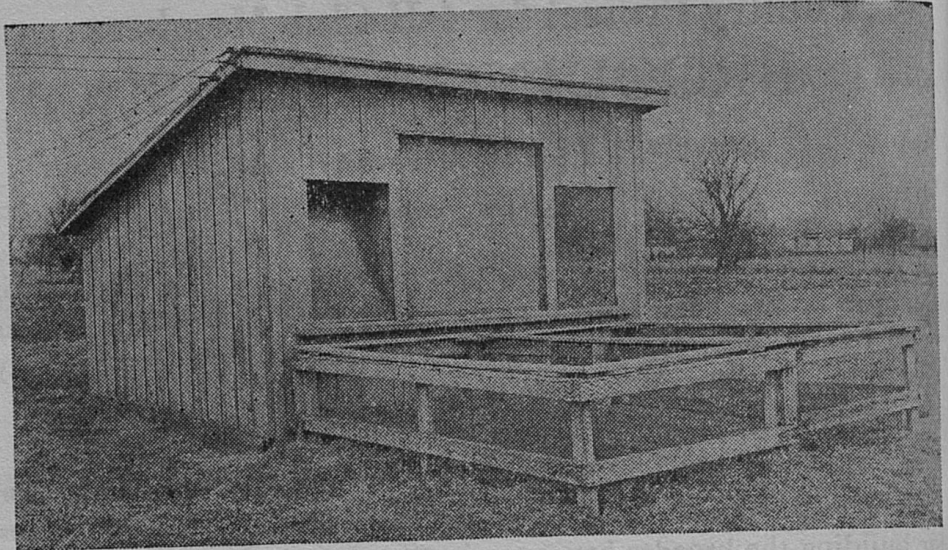

Fig. 1.— Brooder house and sun porch
2. The 10' x 12' brooder house, or similar house, is needed for 200-250 chicks (see Fig. 1). A brooder stove will be needed too. Plans for building the brooder house are in Circular No. 157.